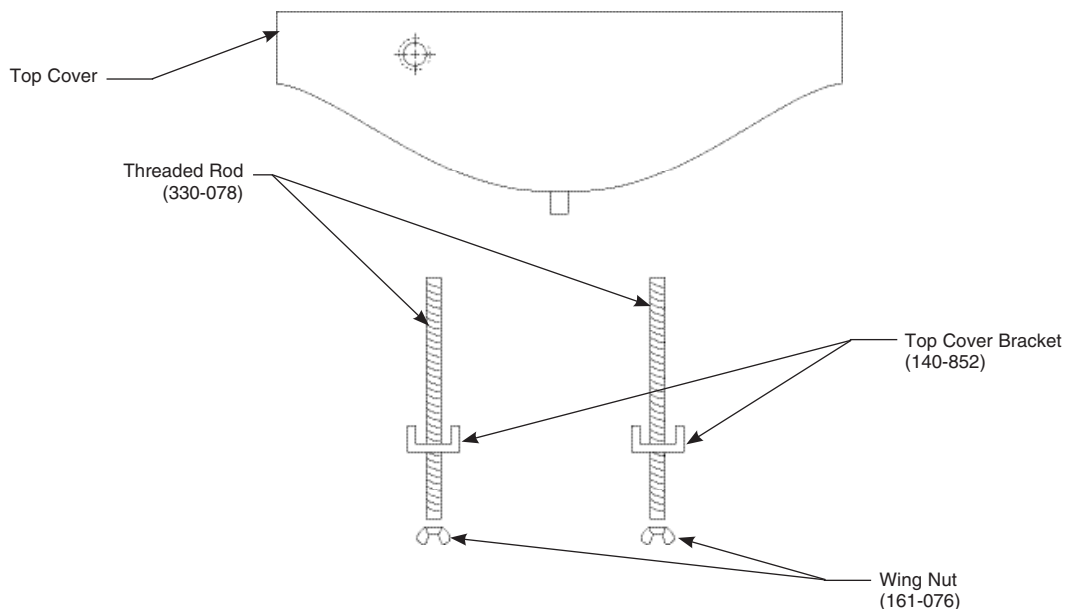

Figure 3
2. Remove the wing nuts on the two threaded rods which retain the cover (see Figure 3).
2. Install the threaded rods into the holes on the bottom of the top cover (see Figure 3).